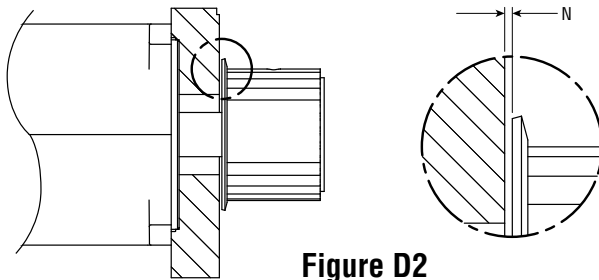

Figure D2
- a. Slide the motor pulley, Item **3**, onto the motor shaft to Dimension N (see Figure D2). Depending on the motor shaft configuration, either align the keyway with the key or the set screw(s), Item **10**, with the flat(s) on the motor shaft.
- f. Slide the cylinder pulley, Item **2**, onto the actuator shaft to Dimension N (see Figure D2) while also sliding the timing belt, Item **4**, around the motor pulley, Item **3** (see Figure D3). The hub of the cylinder pulley should make contact with the nut on the actuator shaft.